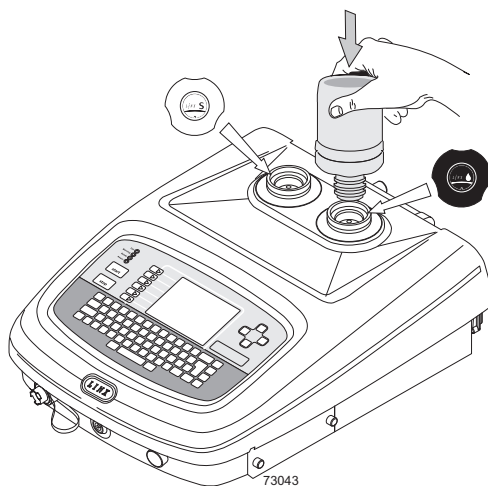

Figure 6-7. Refill with ink and solvent
5. Remove the cap from the bottle and then invert the bottle into the correct filler point, as shown in Figure 6-7.